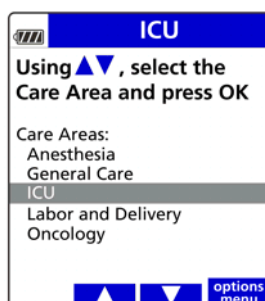

Figure 117. Select Care Area Screen.
- Press the arrow soft keys to select the Care Area and press **OK**. See Figure 117.